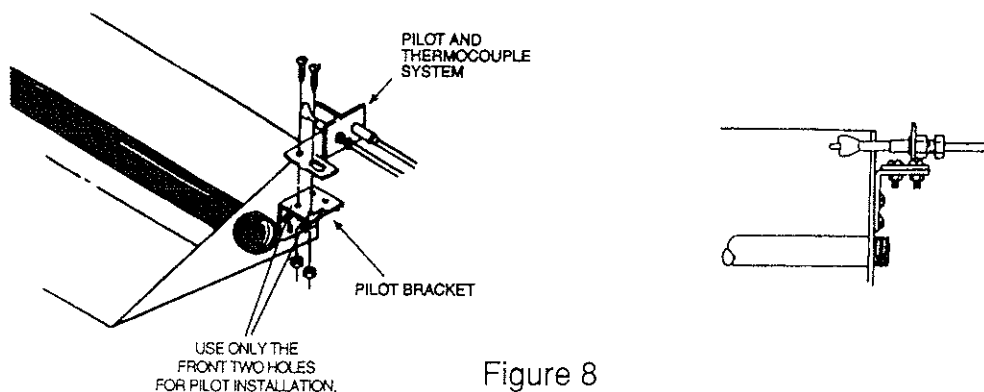

Figure 8
11. Connect pilot and thermocouple to pilot bracket using the screws and nuts provided. Be sure that the pilot and thermocouple is just hanging over the burner pan. (See Figure 8.)